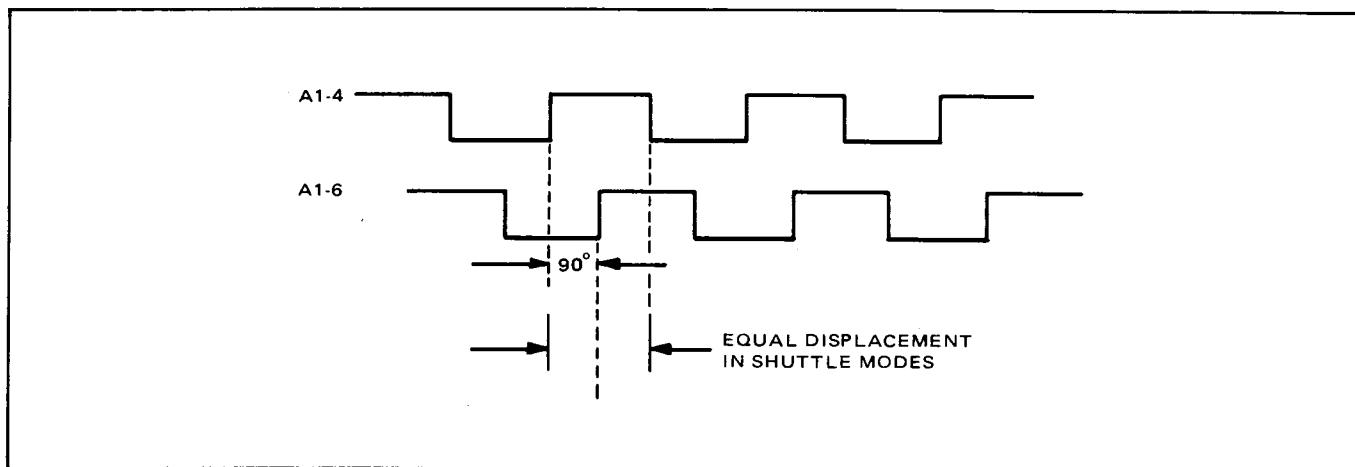

Figure 5-10. Tachometer Preamp Adjustment Waveforms With Tape Moving in the Forward Direction
7. While the idler is spinning, observe the oscilloscope display and adjust the position of the tach preamplifier such that the leading edges of the display are 90° out of phase as shown in Figure 5-10.
8. Depress the DISPLAY RESET pushbutton and continue to rotate the tape timer idler in the tape forward direction, and observe that the display is counting up. If the display counts down with the tape idler rotating in the tape forward direction, the wrong 90° phase point has been selected. Reposition the tach preamplifier in or out until the 90° phasing shown in Figure 5-10 is obtained and the display counts up.
10. Reconnect the oscilloscope to A1-4/6 as in step 5. Thread a tape onto the transport and select the fast forward mode. Observe the displacement of the pulses with reference to Figure 5-10.